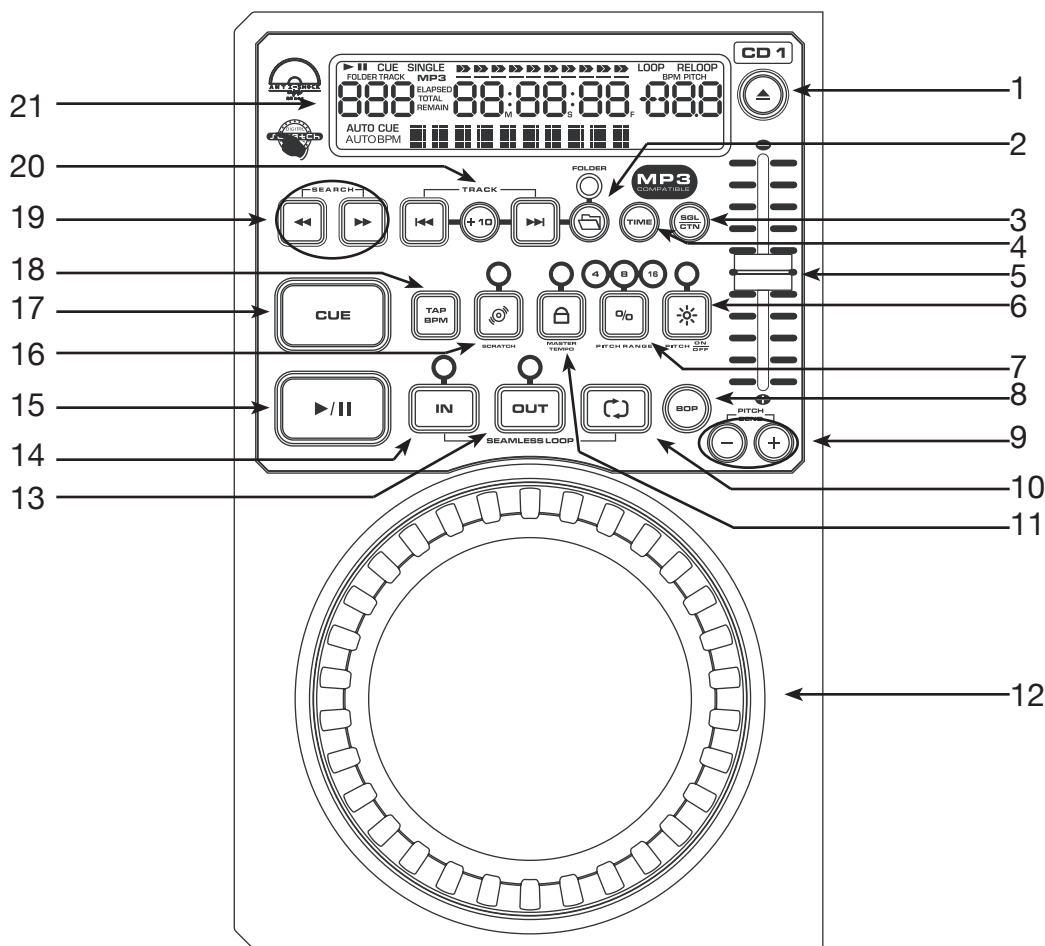

Figure 3
A. TOP UNIT CONTROLS (FIGURE 3)